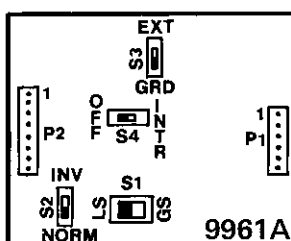

figure 2. Switch locations
3.03 No alignment of the 9961A subassembly is required. Before the subassembly is placed into service, however, four option switches must be set. Locations of these switches on the subassembly are shown in figure 2.